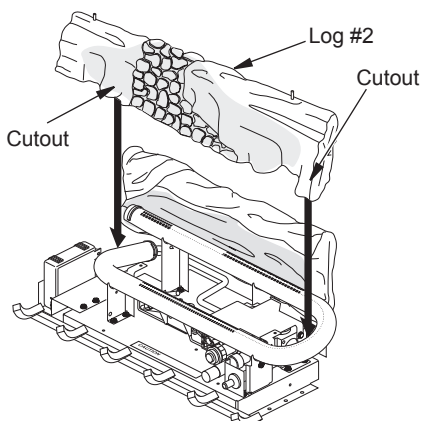

Figure 21 - Middle Log (Log #2) Placement
2. Place cutouts of middle log (log #2) on burner as shown in Figure 21.